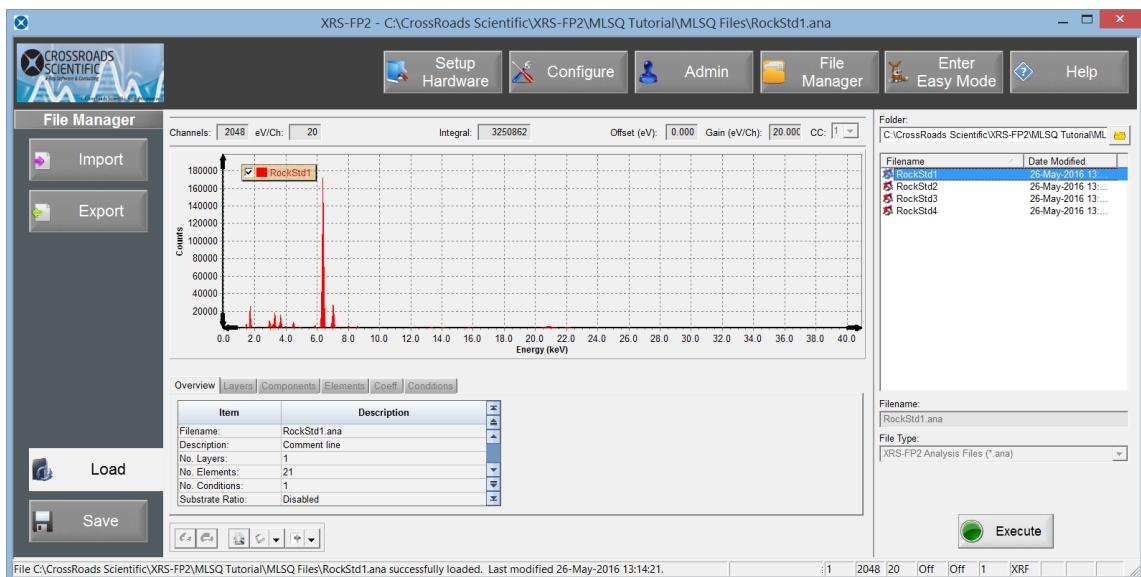

Figure 1. File Manager - Load. Open the first MLSQ standard ANA file, e.g. “RockStd1.ana”.
2. Go to the **File Manager** button in the top ribbon and select the “RockStd1.ana” file in the R-hand panel (from the MLSQ Analysis Tutorial Folder). Then select Execute to load the analysis file for the first standard. See Figure 1 below.